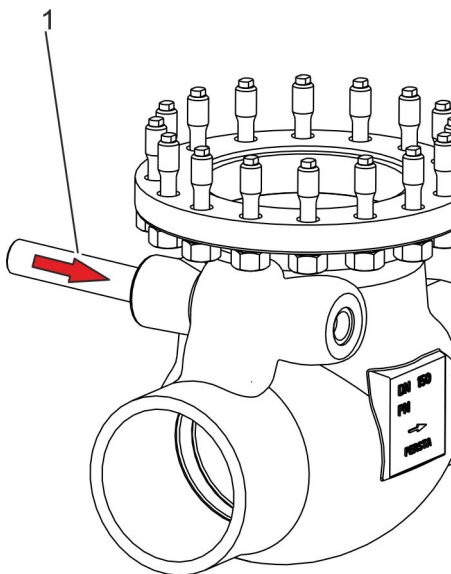

Fig. 30: Driving in the valve shaft
14. Carefully drive the valve shaft (Fig. 30/1) through the mount in the disc lever into the opening on the opposite side in the body.